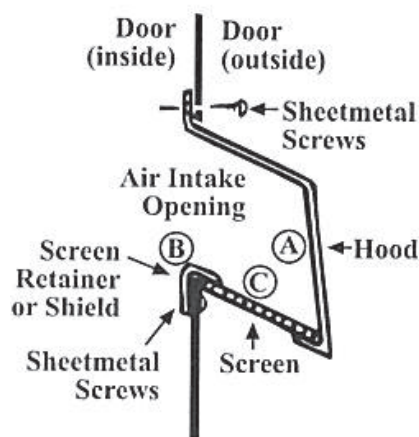

Figure 6. Intake Hood Assembly
NOTE: The parts shown in Figure 6 may be shipped attached to the inside of one or both furnace access doors to facilitate crating. They must be removed from the inside of the doors and installed on the outside as shown. The intake hood is comprised of the parts shown in Figure 6: inlet hood (A), screen retainer or shield (B), and screen (C). On unit sizes 75, 100, and 125, the screen retainer serves as a shield and no screen is used. Unit sizes 150 through 400 use the screen retainer *and* screen.
2. Attach screen retainer or shield (B) (see Figure 6) using sheet metal screws (heads out).
3. Attach inlet hood (A) (see Figure 6) at top only using sheet metal screws (don't tighten).
4. Insert screen (C) (see Figure 6) under retainer (B) and over bottom flange of inlet hood (A) and attach hood at sides using sheet metal screws. Tighten top sheet metal screws.